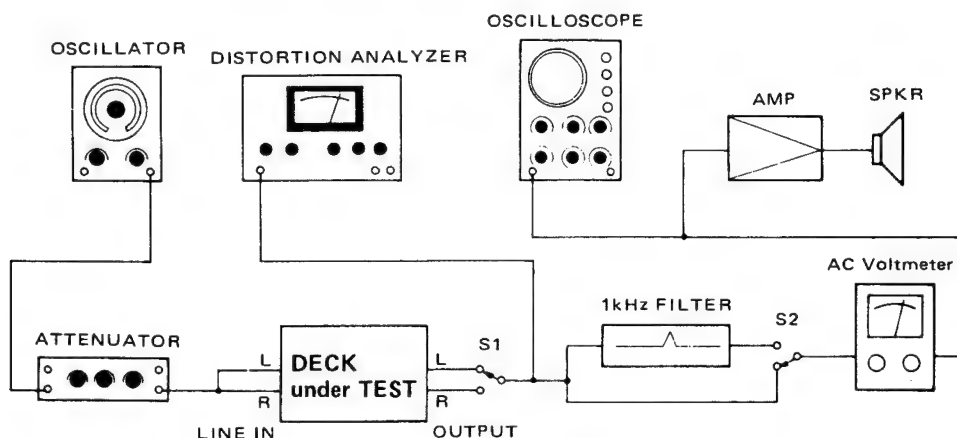

Fig. 5-1 Basic test setup
16. Erase efficiency	<ul style="list-style-type: none">• Connection is same as in Fig. 5-1, but engage 1-kHz filter.• Record a 1-kHz signal in FWD (REV) direction. Rewind (wind) tape to midpoint of recorded portion. Record a "no signal" portion in FWD (REV) direction. Find the difference between the 1-kHz portion and the "no-signal" portion.
17. REC MUTE function	<ul style="list-style-type: none">• Connection: Fig. 5-1, but engage 1-kHz filter.• Record a 1-kHz signal for several seconds in the FWD (REV) direction. Then push the REC MUTE button to provide four seconds of blank space on the tape (At this time, make sure the REC button indicator lamp flashes on and off). After the deck automatically goes into the record-pause mode, rewind (wind) and play the tape in FWD (REV) direction. Find the difference between the 1-kHz portion and the "no signal" portion.
18. Channel separation	<ul style="list-style-type: none">• Connection: Fig. 5-1, but do not connect LINE IN (R), and engage 1-kHz filter.• Set the deck to FWD (REV) record mode. Find the difference between the 1-kHz recorded portion (L-ch) and the "no signal" portion (R-ch).
19. Adjacent track crosstalk	<ul style="list-style-type: none">• Connection: Fig. 5-1, but do not connect LINE IN (L) and OUTPUT (L).• Record a 125-Hz signal on the R-ch in FWD (REV) direction and note the output level. Invert the tape and play the R-ch track in the FWD (REV) direction. Check the leakage level against the output reference of the previously recorded portion.